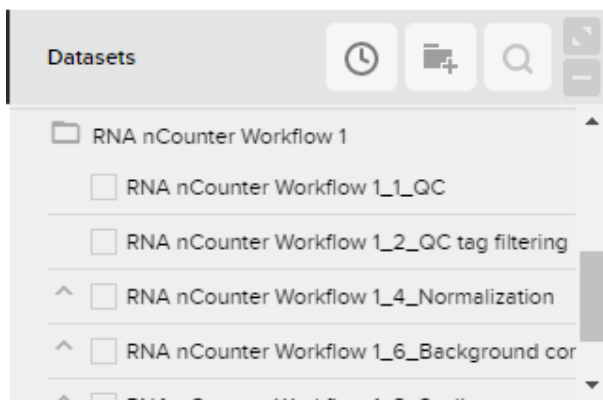

Figure 51: Dataset output from a workflow.
9. The **dataset** produced by the workflow appears as a folder in the **Datasets pane**. Click on the dataset folder name to expand the datasets for each step within the workflow (see Figure 51).